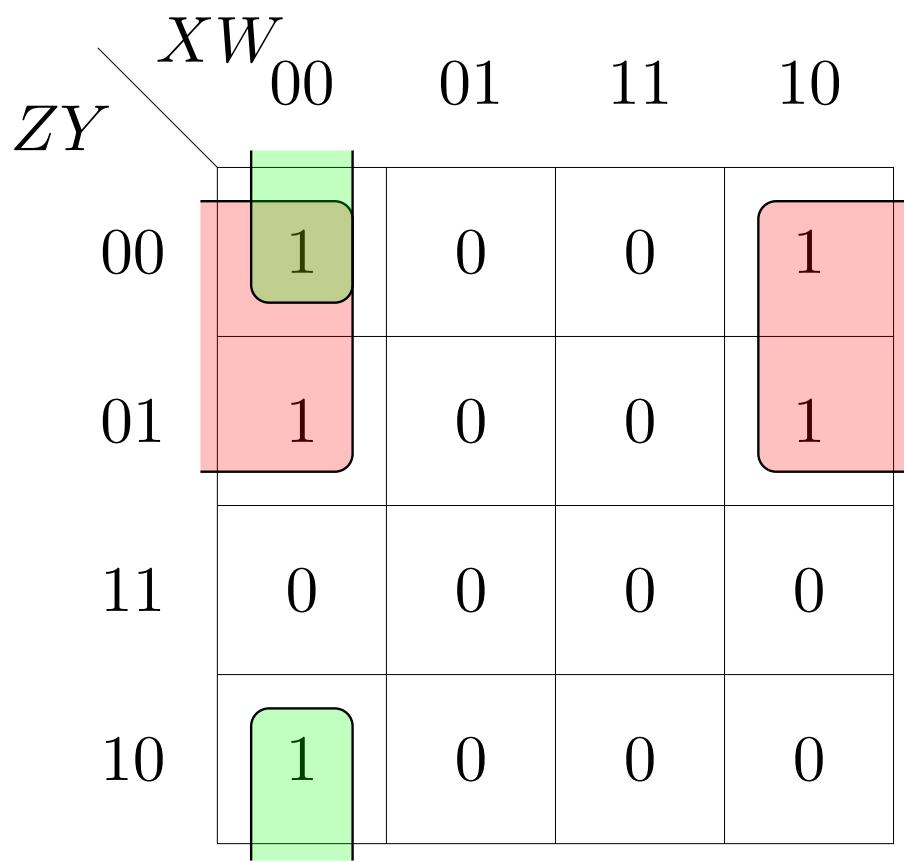
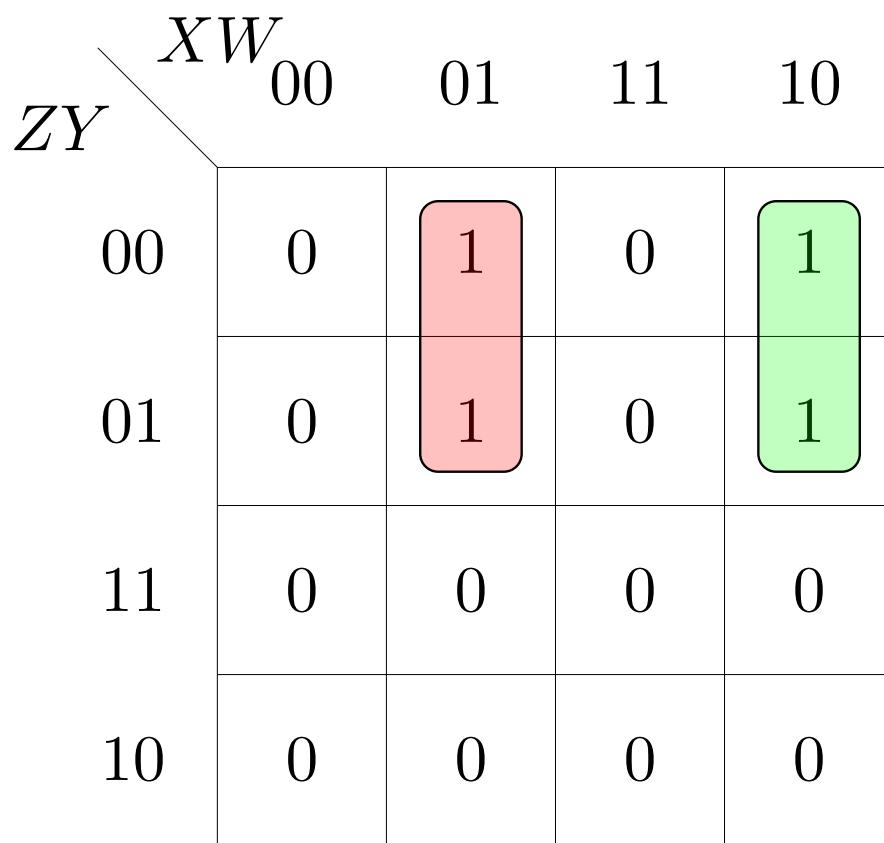

Figure 4.1: K-map for A
Figure 4.2: K-map for B
1. K-Map for A : The expression in (4.1) can be minimized using the K-map in Fig 4.1
In Fig 4.1, the implicants in boxes 0,2,4,6 result in $W'Z'$ The implicants in boxes 0,8 result in $W'X'Y'$ Thus, after minimization using Fig 4.2, (4.1) can be expressed as
using Fig 4.2